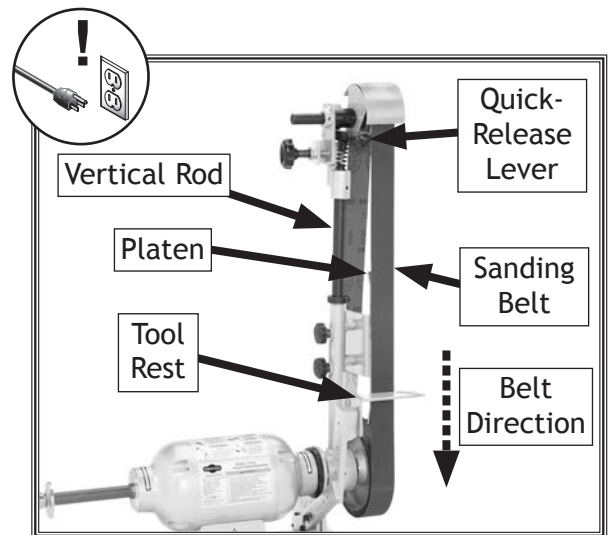

Figure 18. Sanding belt installed.
2. With the direction arrows printed on the inside front of the belt facing down, pull down on the quick release lever and wrap the belt around the idler and drive wheels so that it is centered on both, as shown in **Figure 18**, then release the lever.
Note: To prevent the belt seam from catching on the workpiece, install the belt so that the direction arrows printed on the inside face of the belt follow the belt rotation, as shown in **Figure 18**.